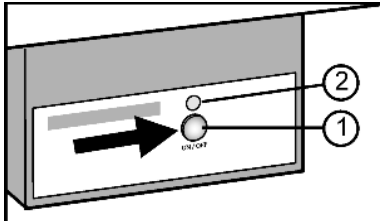

Fig. 15
- ▶ Press the On/Off button Fig. 15 (1) so that the LED Fig. 15 (2) shines.